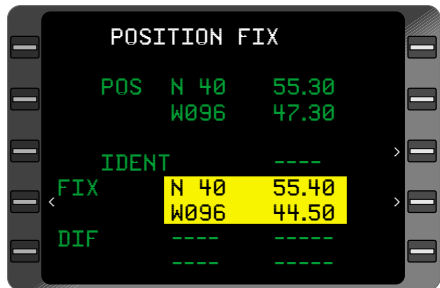

Figure 3-180
- a. Line Select Key (cursor over **FIX** coordinates). (Figure 3-180)